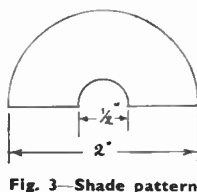

Fig. 3—Shade pattern
For the shades cut a piece of very thin parchment to the shape shown at Fig. 3. Join the edges with quick-setting glue and place over the bulbs, which should be of the spherical type. The shades can be held in position with a touch of heat-resisting glue. (248)